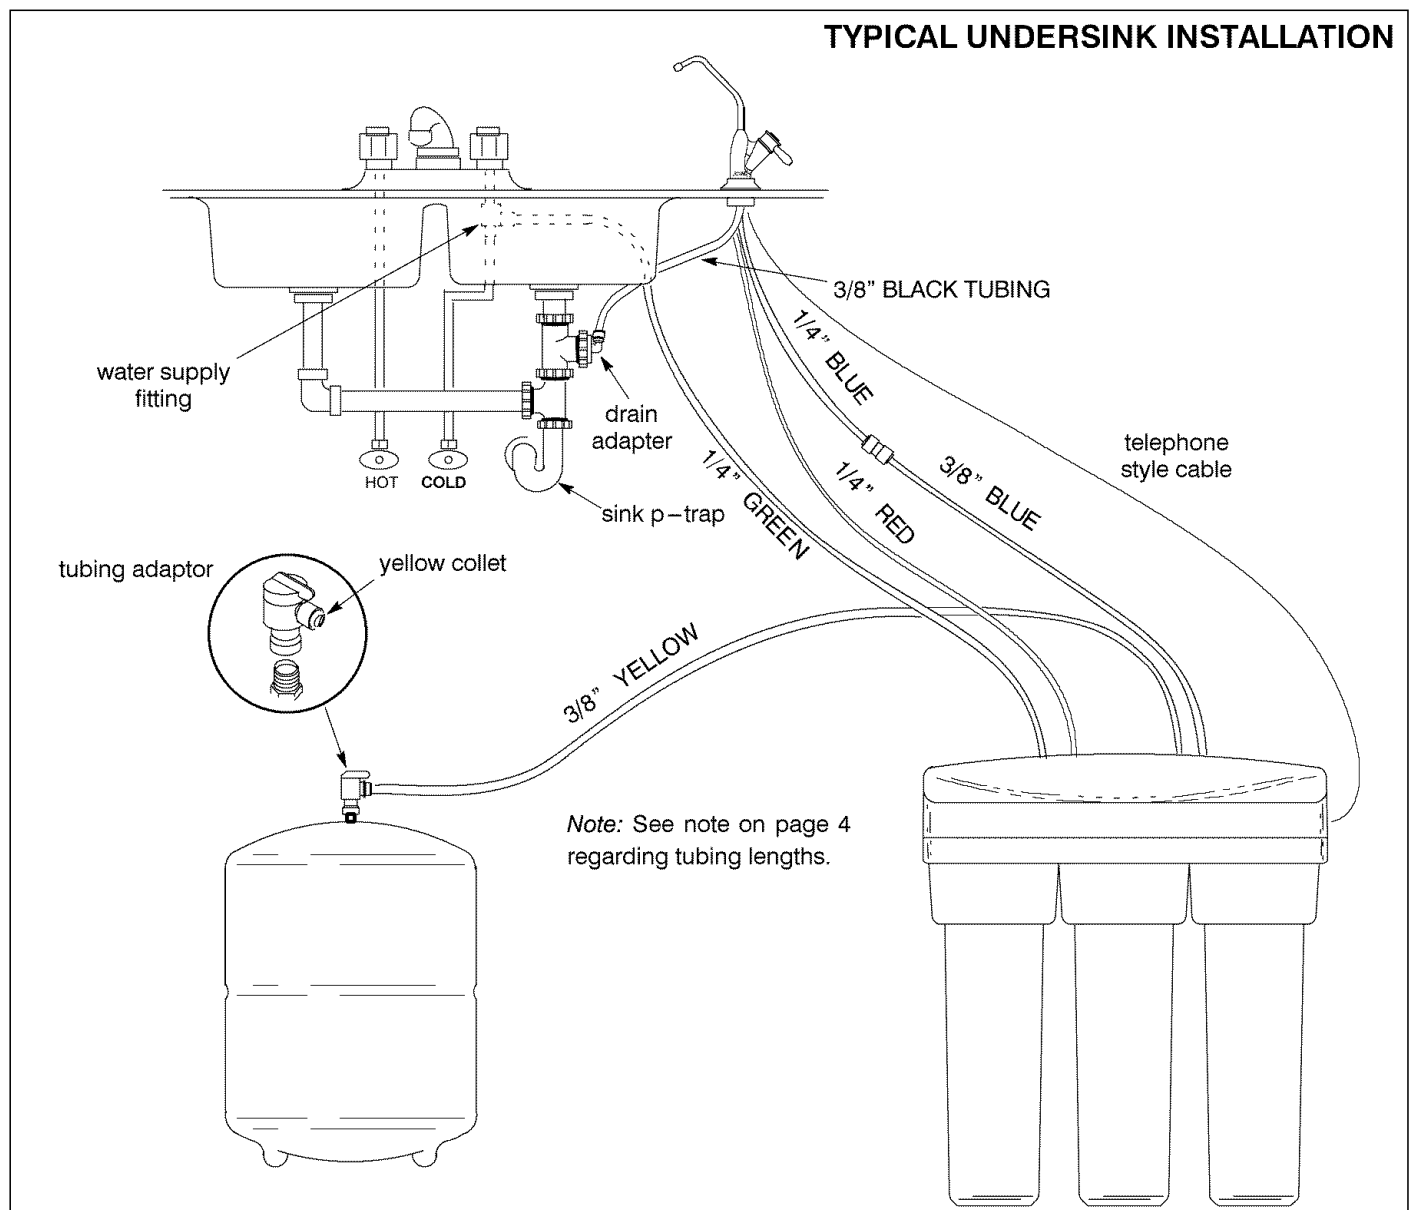

Figure 8
Check and comply with local plumbing codes as you plan, then install a cold feed (supply) water fitting. The fitting must provide a leak-tight connection to the RO 1/4" tubing (see Figure 8, page 8). A typical connection using the included water supply fitting is shown in Figure 3A below. An optional connection, using standard plumbing fittings (not included), is shown in Figure 3B.
1. Select one of the following places for the faucet. Be sure it will fit flat against the surface, and there is space underneath for tubing (see Figure 8, page 8).
1. **CONNECT DRAIN TUBING, FAUCET TO DRAIN ADAPTER:** Referring to Figure 8, run the loose section of **black 3/8"** tubing from the faucet to the drain adapter, with a black collet, installed on page 6. Cut this tubing as needed to **route in as straight of a run as possible, without loops, dips, low spots or kinks.** Cut the end of the tubing square. Then push all the way into the fitting. Pull on the tubing to be sure it's held firmly in the adapter fitting. See page 14 for tubing connection instructions.
Water from the cold supply pipe enters the RO assembly prefilter first (Figure 8, page 8, and schematic, page 11).